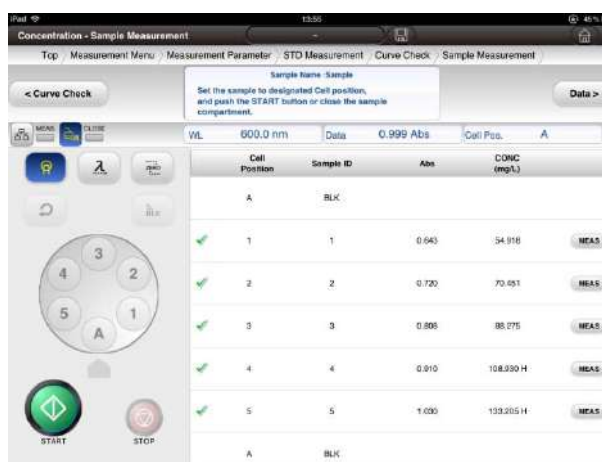

Fig. 4-21 Example of the Window After Measurement of the First Round of Samples
- (4) When 6 or a larger number is set for "number of samples," the measurement results of Sample 1 to 5 will be shown as in Fig. 4-21. Set the following sample according to the guidance. When the sample has been placed, press  [start button] icon. This will then begin measurement.